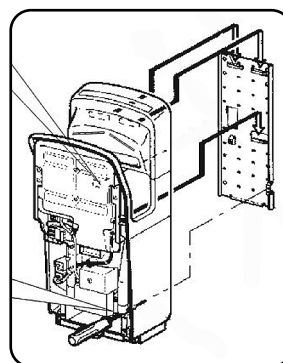

Figure 5
- attach the rear of the main unit to the 3 hooks on the backplate panel, and secure with the installation screws – see figure 5. *NOTE: These installation screws for the unit will not tighten completely if the hooks at the bottom of the installation panel are not in place. ensure the lower hooks are completely hooked onto the rear of the unit.*